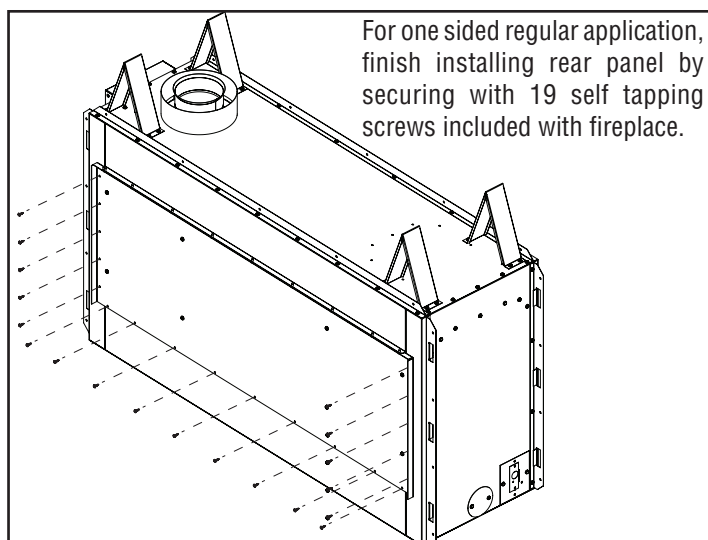

Figure 33 - Installing Rear Panel for One Sided Regular Applications
1. Using self-tapping screws provided and holes on rear panel as a guide, screw the rear panel to the fireplace as shown in Figure 33, page 27.